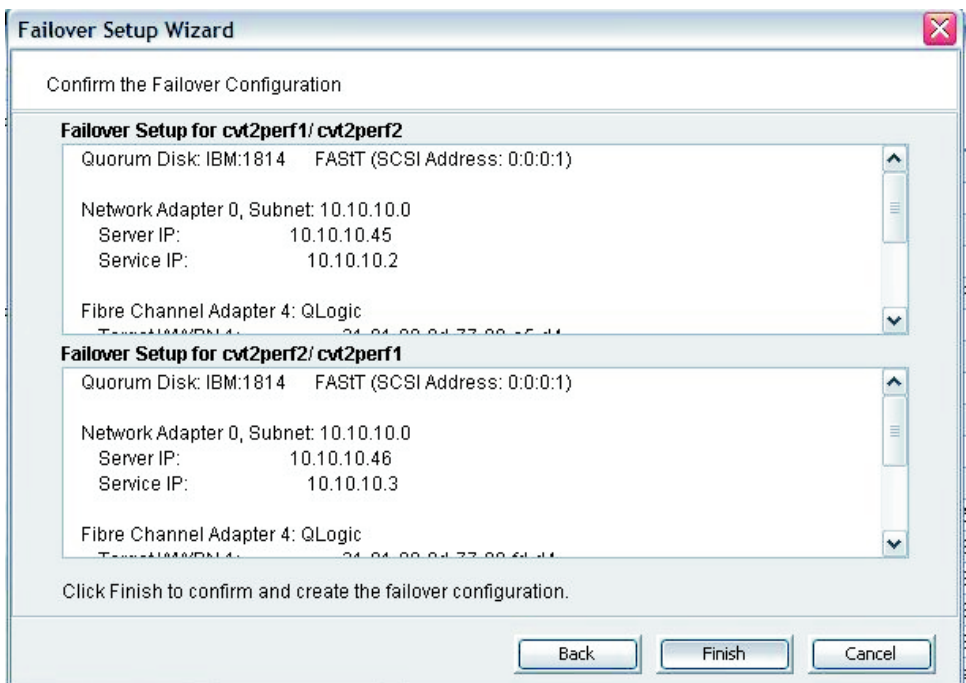

Figure 28. Confirm the Failover Configuration window
14. \_\_ In the Confirm the Failover Configuration window (Figure 28), verify that the entered information is correct and click **Finish**.